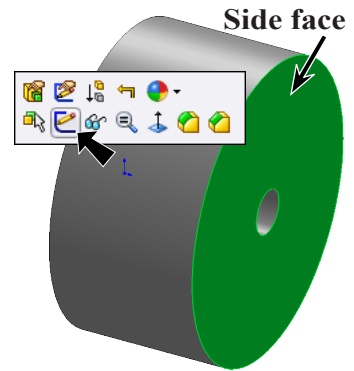

Fig. 6
Step 1. Click the **side face** and click **Sketch**  on the Content menu, **Fig. 6**.